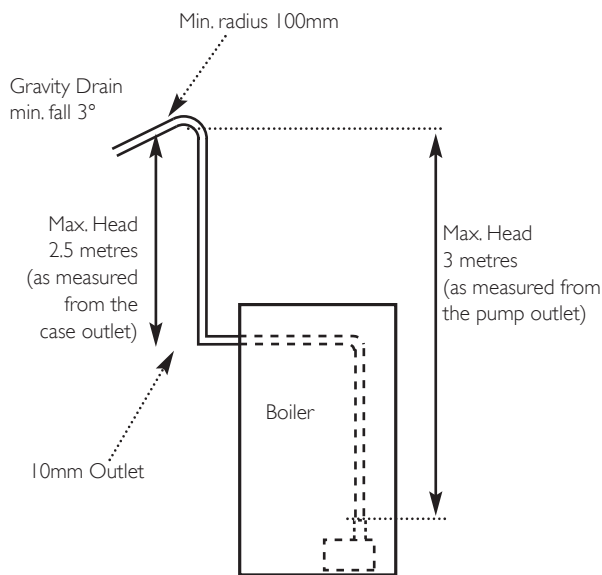

Fig. 12
2. The pump has an **effective head of 3 metres** (Fig. 12). The condensate case outlet connection is positioned at the top left of the boiler (approximately 0.5 metres above the pump). It is 10mm diameter plastic.
2. The 10mm pipe can be routed to a maximum of 2.5 metres vertically as measured from the outlet (equivalent to the total available head of 3 metres) and then discharge via gravity or be routed horizontally (Fig. 12).